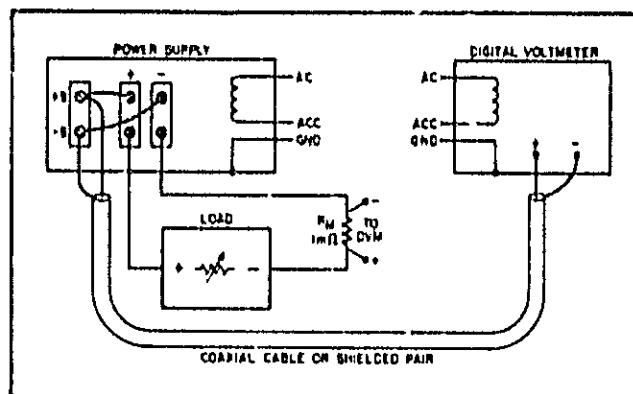

Figure 5-2. Basic Test Setup
- Connect test setup shown in Figure 5-2. Operate the load in constant resistance mode (Amps/Volt) with resistance initially set to maximum.
a. Connect test setup shown in Figure 5-2.
- Connect load and digital voltmeter as illustrated in Figure 5-2.
- Connect load and digital voltmeter (DVM) as illustrated in Figure 5-2.